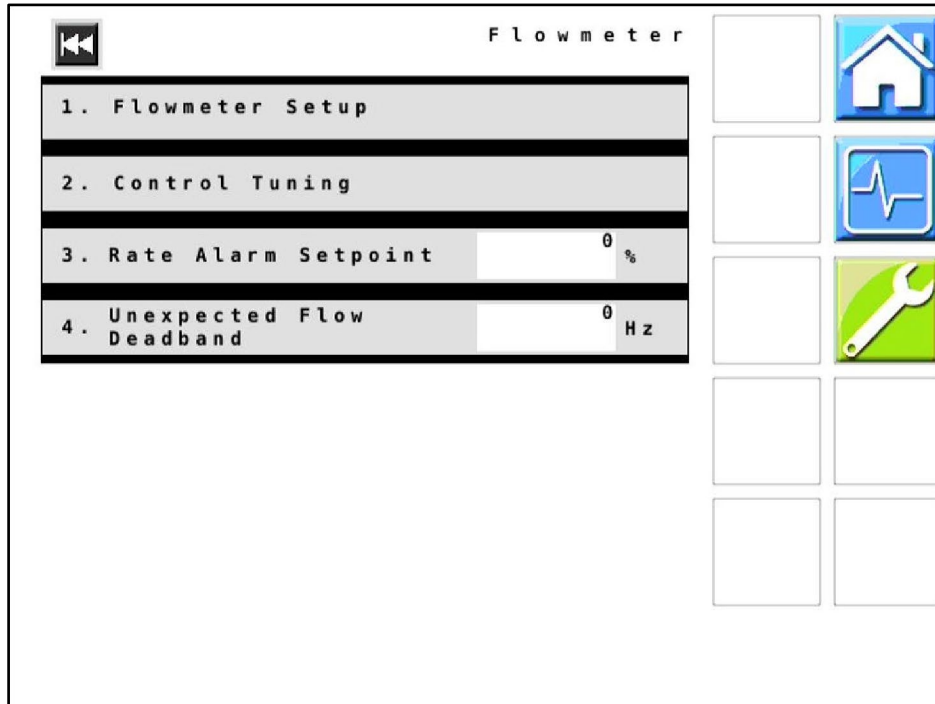

Figure 16 — Flowmeter
29. **Figure 16:** Verify that all values displayed on your unit match those shown here. Change values if necessary.